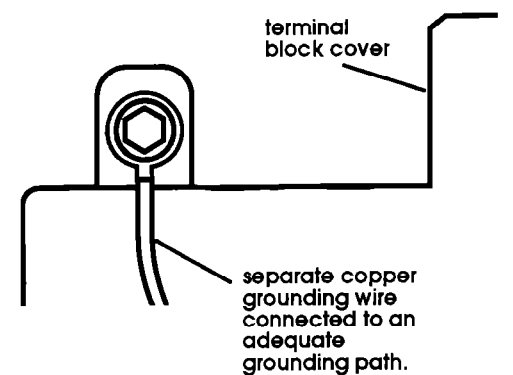

Figure 21
8. After reattaching the terminal block cover, connect separate copper grounding wire from external grounding connector to an adequate ground (Figure 21). If codes permit and a separate grounding wire is used, it is recommended that a qualified electrician determine that the grounding path is adequate.